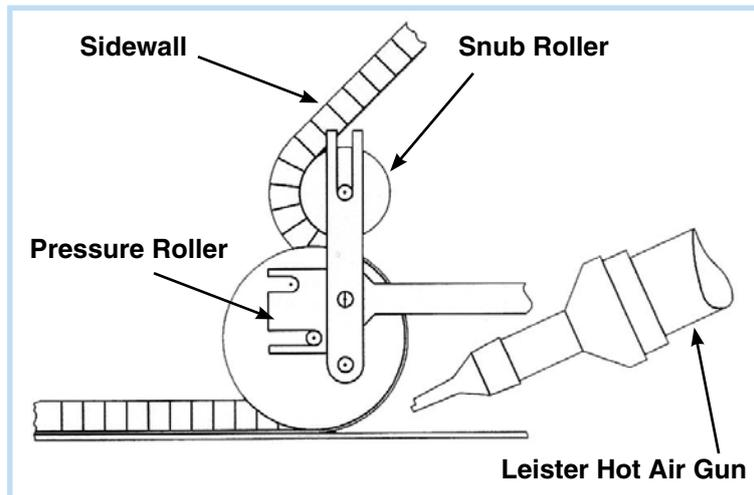

Fig. 6
2. Turn the Leister off and thread the sidewall/strip through the rollers (Fig. 6). To thread the sidewall between the roller and the Leister nozzle, use a long shaft, flathead screwdriver.